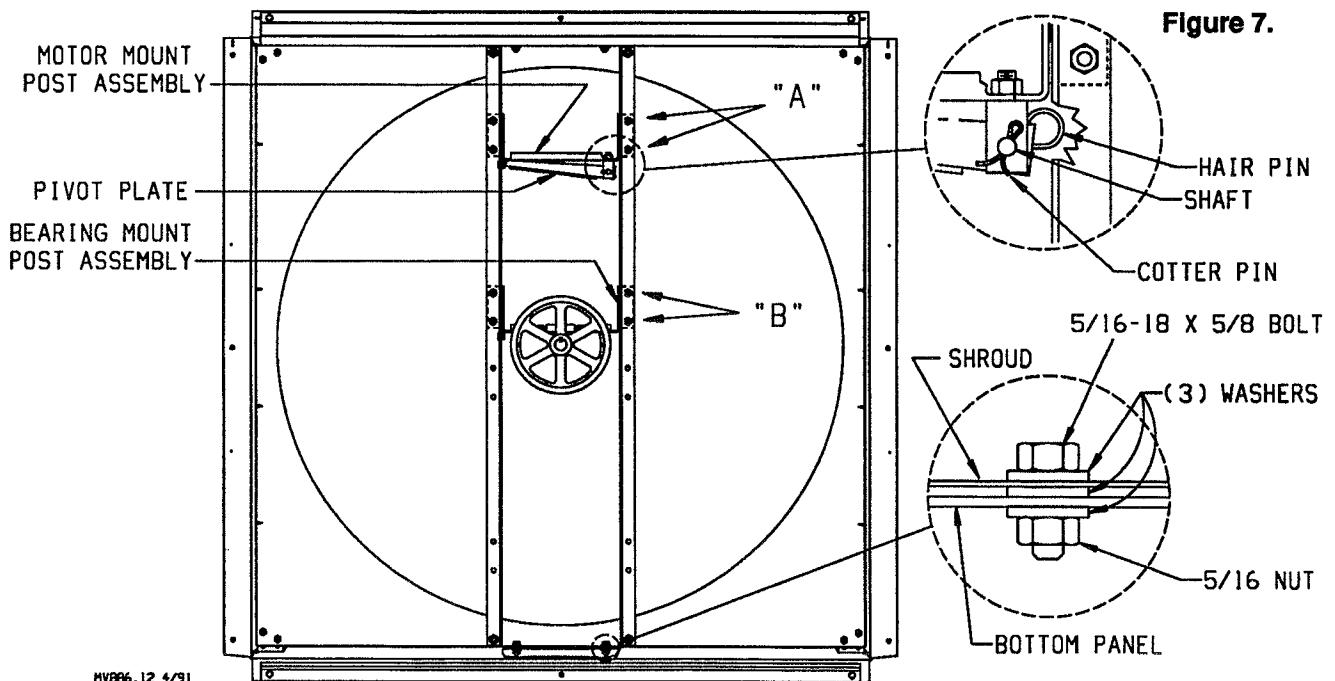

Figure 7.
11. Align bearing mount post assembly to set of holes marked "B" and fasten with four (4) 3/8-16 x 3/4 bolts, and locknuts. See Figure 7.
12. Align motor mount post assembly to set of holes marked "A" and fasten with four (4) 3/8-16 x 3/4 bolts, and locknuts. See Figure 7.
- ☆ 13. Remove pivot plate from motor mount post assembly by pulling hairpin and removing shaft. See Figure 7.
15. To secure the top of the shroud install two (2) 5/16-18 x 5/8 bolts through the slots in the shroud and the top panel, and secure bolts with two (2) 5/16-18 locknuts, and four (4) flat washers.
16. For securing the bottom panel install two (2) 5/16-18 x 5/8 bolts, six (6) 5/16 flat washers, and two (2) nuts as shown in Figure 7.
17. Adjust the shroud to Slant Wall housing gap evenly from left to right. Next, tighten only the corner bracket's bottom and top panel hardware. Afterwards, tighten all remaining shroud corner bracket hardware including the four (4) 5/16 bolts installed in steps 15 and 16.
18. To reduce gap and to straighten sides of Slant Wall housing, self drill twelve (12) #10 x 1/2 screws through the pre-drilled holes in the top and side panels. Screws should penetrate both Slant Wall panel and shroud flange.